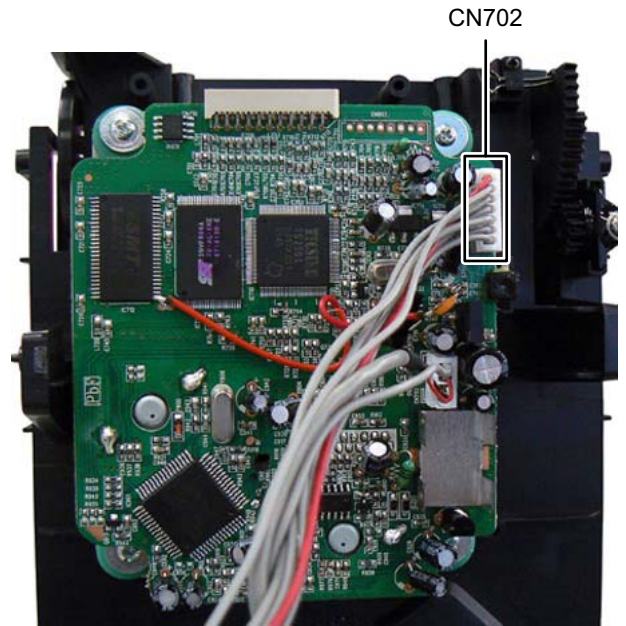

Fig.10
- (6) Disconnect the connector wire from MAIN BOARD assembly connected to connector **CN702** of the CD BOARD assembly. (See Fig.10)